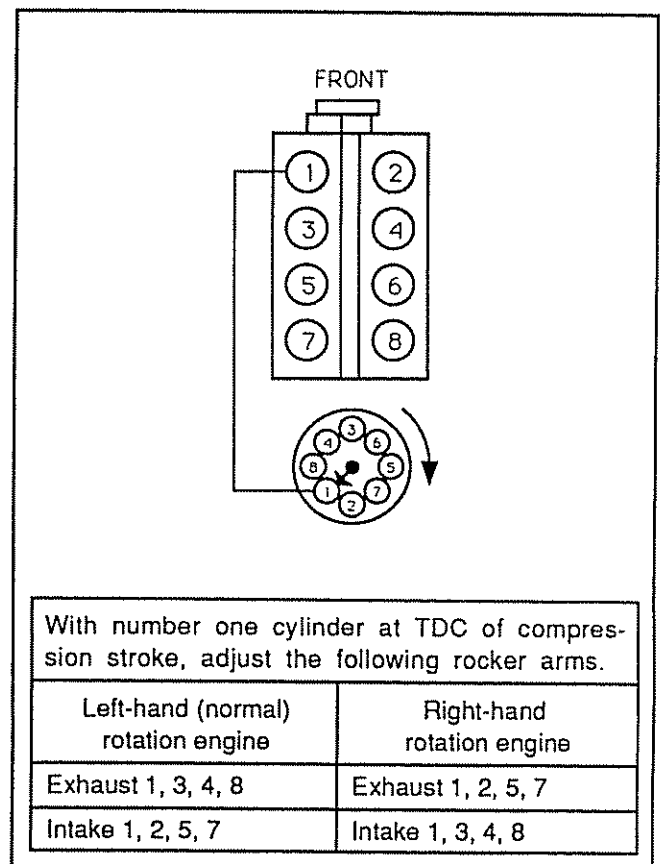

Fig. 8-119 Adjusting Rocker Arms With No. 1 Piston At TDC Of Compression Stroke
2. With engine in No. 1 firing position as determined above, see Figure 8-119 for information on which valves may be adjusted.